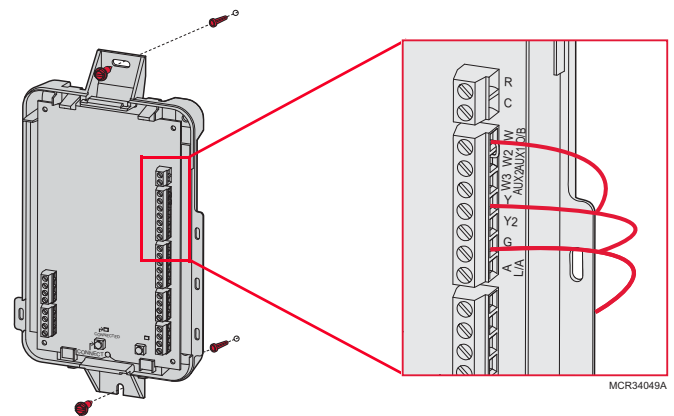

Fig. 7.
2. To wire the EIM, strip 1/4” insulation, then insert wires (see Fig. 7). For wiring diagrams, see “Wiring” beginning on page 121.